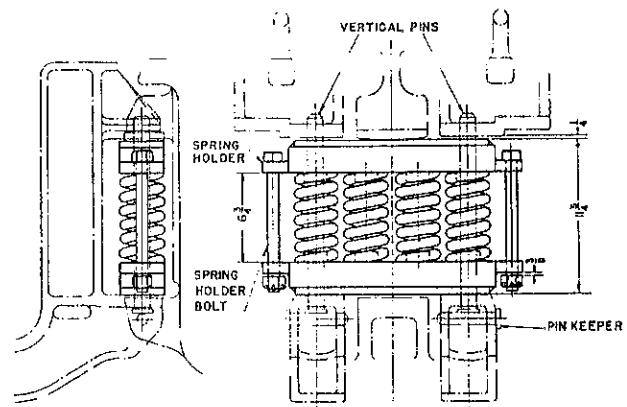

Fig. 8 -TRACTION MOTOR NOSE SUPPORT
4. Remove all motor nose suspension spring nests as follows. See Fig. 8.